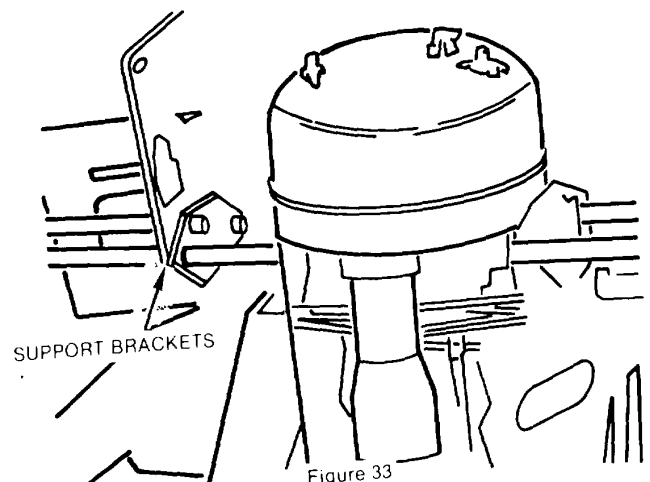

Figure A-2. Fuel Tank Support Brackets
d. Fuel tank support brackets. Pull off both the fuel tank support brackets as well as the intake and exhaust manifold gaskets. (Figure A-2)